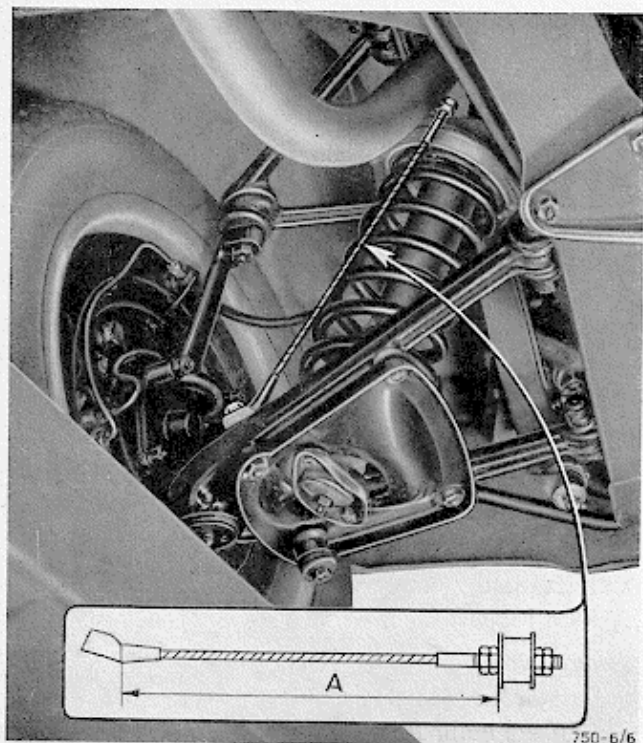

Fig. 6 - Front suspension; checking the length of the metallic cord limiting the downward travel of the wishbones
- 4) Fit the springs and the spring-supporting plates, using tool No. 6121.04.016; connect the metallic cord limiting the suspension movement, keeping the length between connections to 312 mm. (fig. 6).